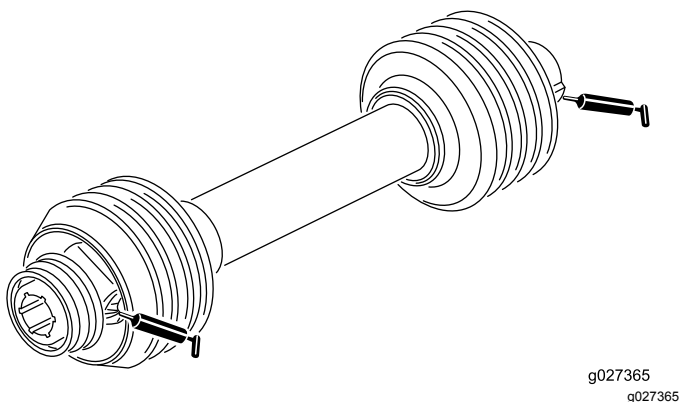

Figure 10
2. Grease the fittings on the fan shaft bearings as illustrated in Figure 10 with No. 2 lithium-based grease.
Grease the 2 drive shaft fittings as illustrated in Figure 10 with No. 2 lithium-based grease.